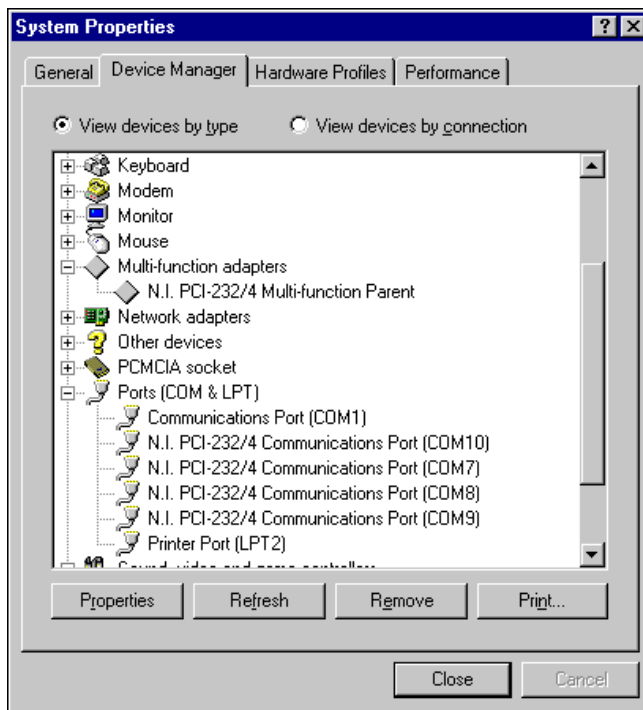

Figure D-2. Ports List in Device Manager
5. Select the interface that Windows Me/9x did not detect, as shown in Figure D-2. (This example shows a PCI interface.)